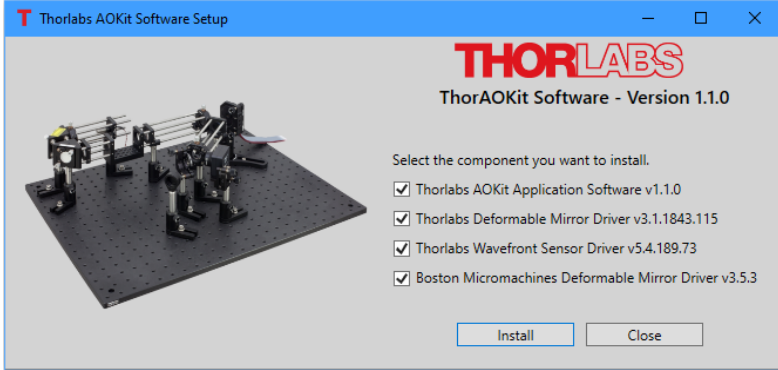

Figure 1 ThorAOKit Software Installation
2. Run "ThorAOKit_Setup.exe" from \Setup folder to launch the setup window as shown in Figure 1.